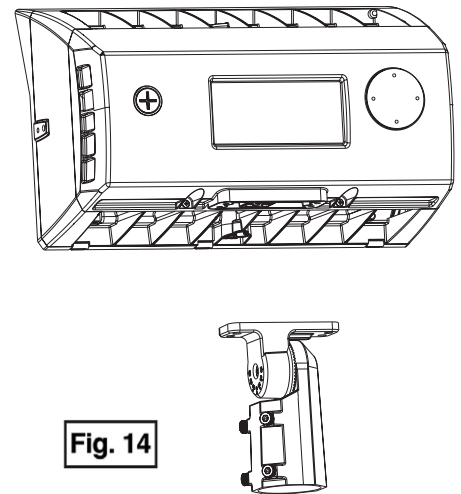

Fig. 14
- 2.) Remove the slipfitter knuckle from the fixture. The upper and lower knuckle pieces may need to be loosened to get the input cords out. (Fig. 14)